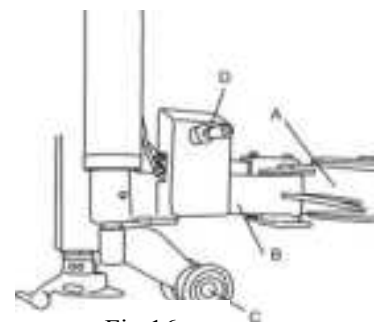

Fig 16
- 2) Fix the support of the tyre pressing arm on the top of column with four screws (Fig 16)
- 3) Mount the help arm 1# with pin on its support shown as Fig 16. Mount 2# help arms with pin on the right side of the swing arm.
- 4) Connect the air hose to the corresponding L-union on the back of the body. (Fig 16)
- D- Handle for roller (A-D shown as fig 16)